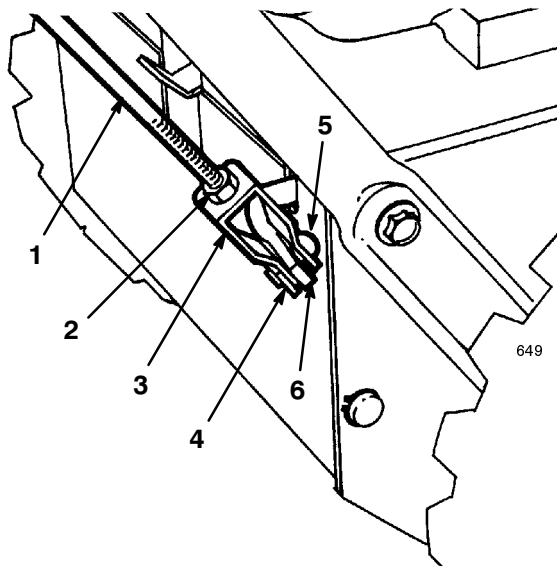

Figure 8
1. Loosen the jam nut above the clevis on the upper control rod (Fig. 8).
2. Align the holes in the clevis and the lower control rod and insert the clevis pin (Fig. 8).
- C. Thread the clevis up or down to increase or decrease the distance between the handgrip and the auger/impeller drive control lever (Fig. 8).
6. When the adjustment is correct, install the clevis pin and secure it in place with the cotter pin (Fig. 8).
7. Tighten the jam nut to secure the clevis (Fig. 8).